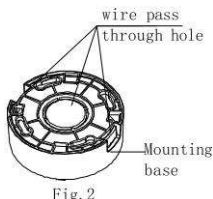

Fig. 2
(2) According to the site-specific wiring, process the through-hole of the mounting base (the base reserves three through-hole positions). As shown in Fig. 2.